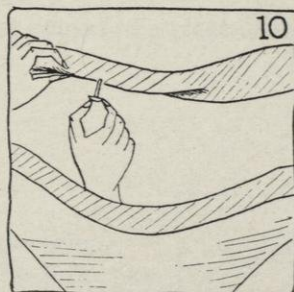

FIG. 10.
- (2) Turn the raw edge in $\frac{1}{4}$ inch and pin, as shown in Figure 10. This side of the binding should now be the same width as the part on the other side of the brim.